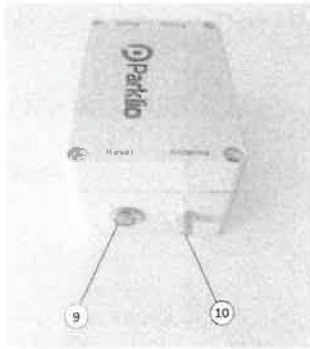

Figure 4 - Electronic box - top view
- 3) remove the electronic box (Section 1.2 – Figure 4) from the barrier interior